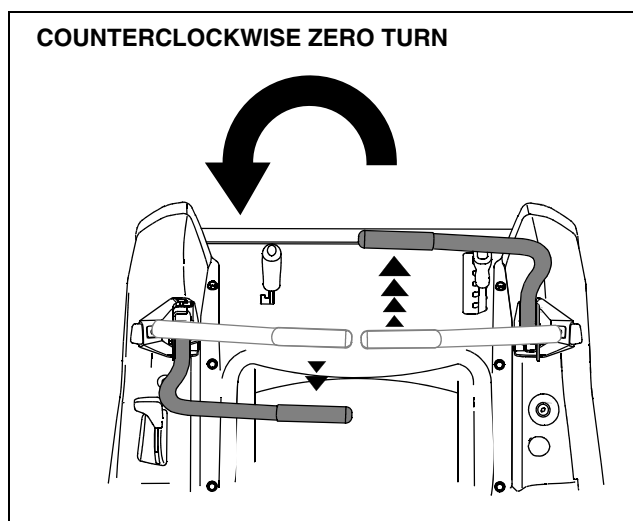

Figure 19
- To turn counterclockwise, slowly move the right control lever forward while simultaneously moving the left control lever rearward. See Figure 19.